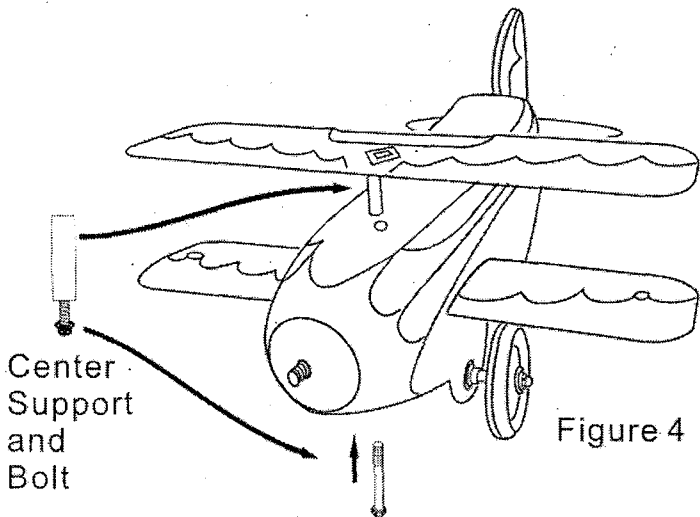

Figure 4
Step 2: Locate the upper wing and the center support. Remove both bolt from the Center support. From airplane underbelly, thread the bolt upward, through the Center Support, and insert into the welded nut of Upper Wing. Shown as the Figure 4.